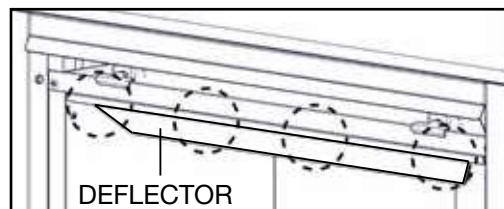

Fig. 1
- C. To ease assembly, remove the four hex head screws securing the deflector from inside the top front of the firebox (**Fig. 1**). Set deflector aside.